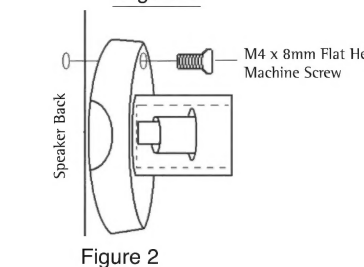

Figure 2
- 3. Some speakers use the smaller M4 x 8mm hardware, which is inserted into the off-center hole on the mounting post (Figure 2).